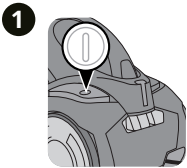

Figure 1
1. Switch off the appliance as shown in figure 1.